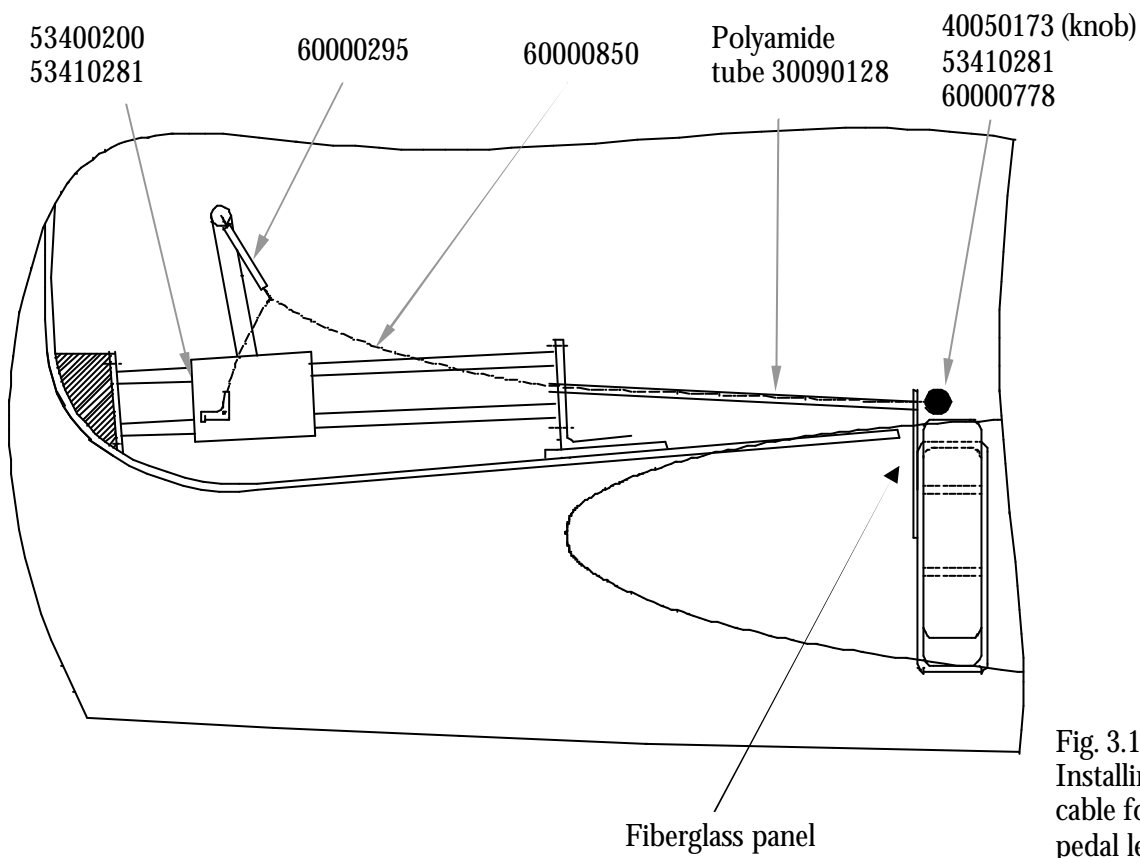

Fig. 3.13.11
12. To prevent chafing, insert polyamide tube no. 30090128 between the pedal block and the fiberglass plate as shown in figure 3.13.11.